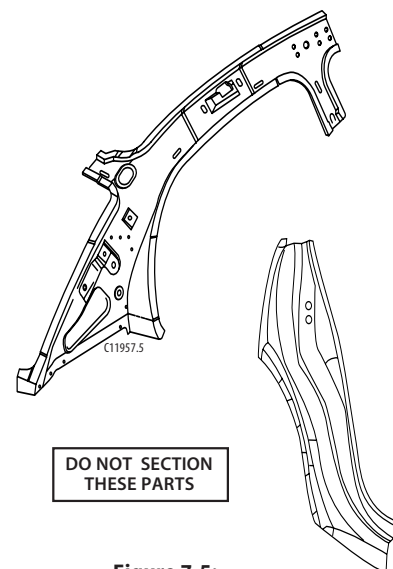

Figure 7-5:
- the roof rail inner reinforcement (see figure 7-5)
- the rear lock pillar (see figure 7-5)